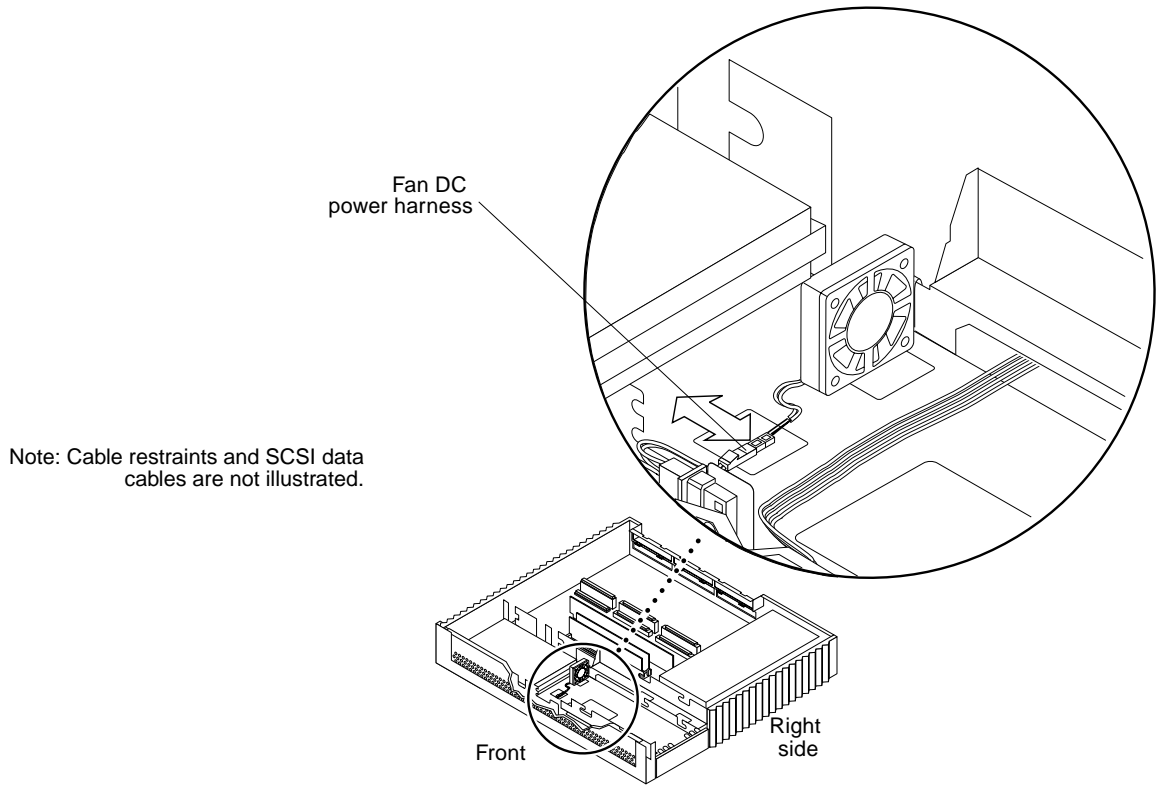

FIGURE 8-18 Fan DC Power Harness and Cable Restraint
- 3. Detach the fan DC power harness from under the cable restraint near the CD-ROM drive data cable (FIGURE 8-18).**